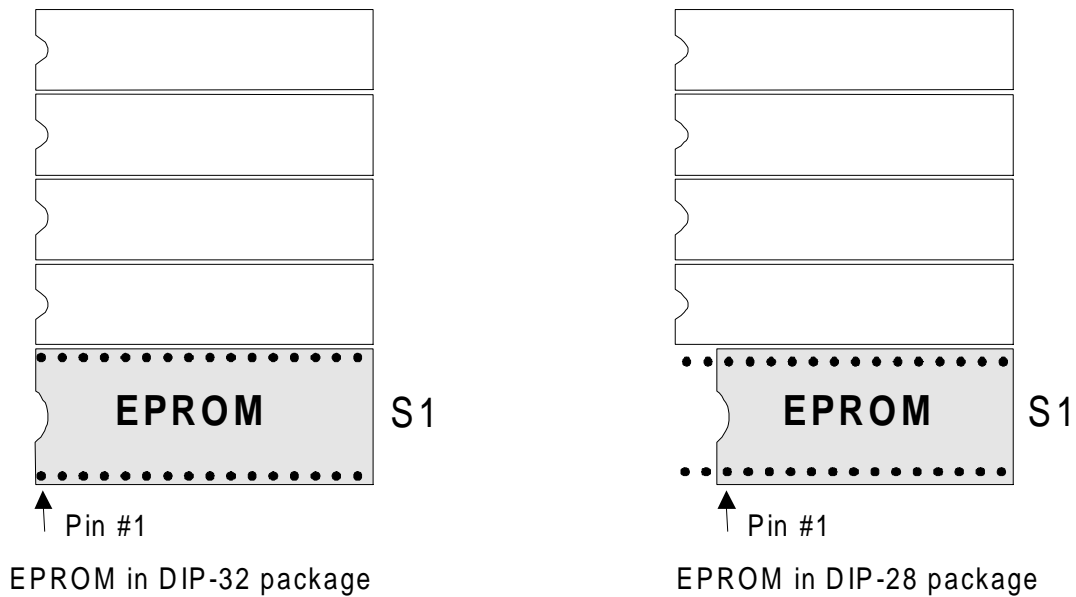
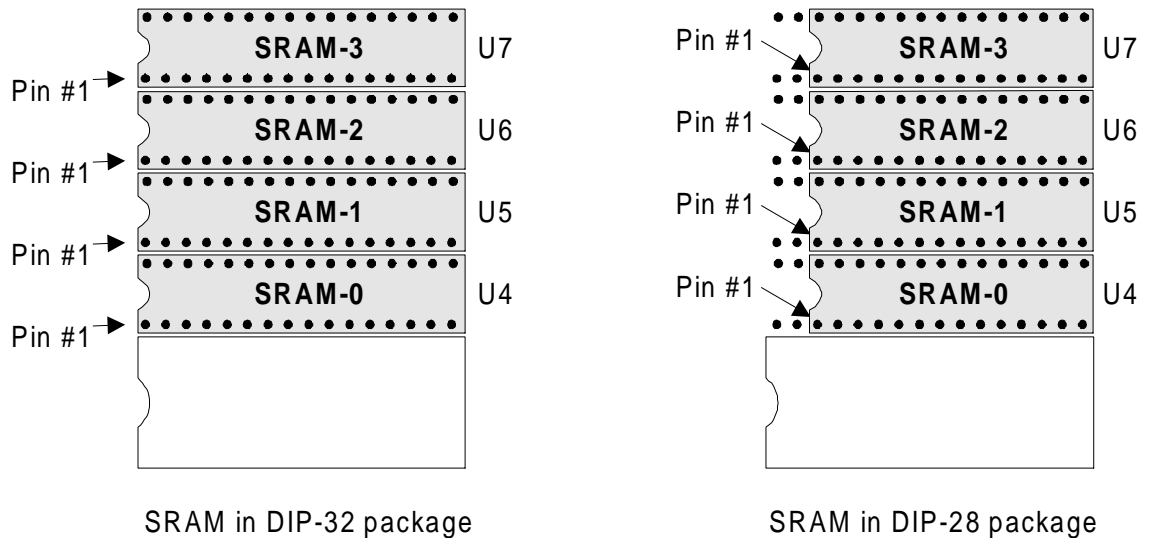
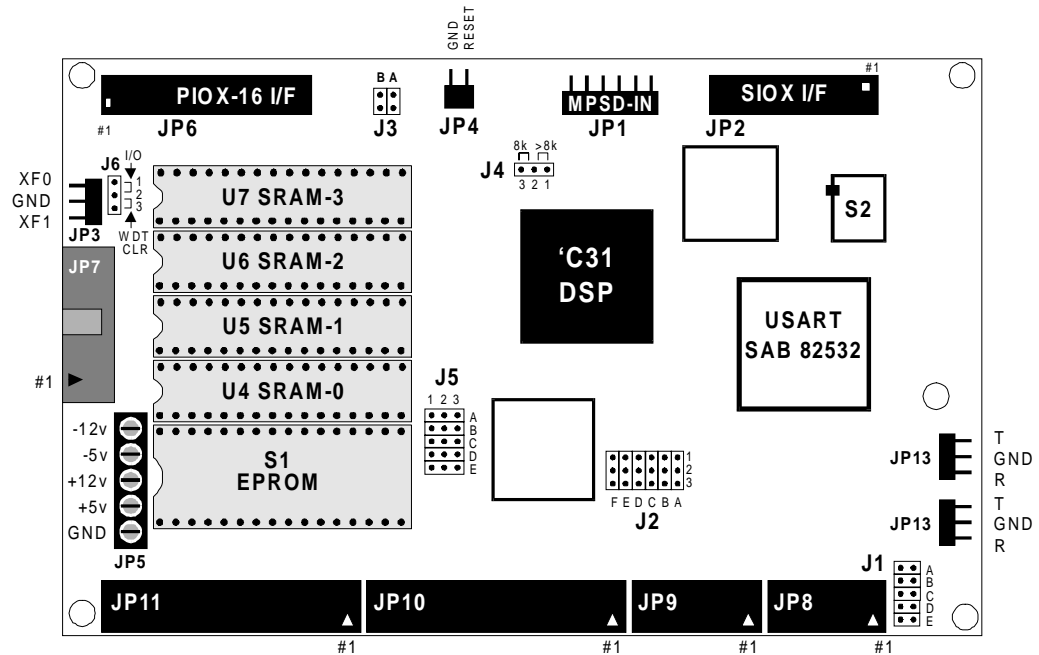

Fig.3-1. Installation of EPROM chip onto *TORNADO-E31* board.
Fig.3-2. Installation of SRAM chips onto *TORNADO-E31* board.
Fig.A-1. On-board layout for *TORNADO-E31*.
*TORNADO-E31* also provides 8-bit of general purpose parallel digital I/O signals (*DIO-0..7*), which are wired to the on-board JP7 connector (see fig.2-2 and fig.A-1) and 2-bit general purpose I/O (*XF0/XF1*), which are wired to the on-board JP3 connector.
The power to *TORNADO-E31* controller should apply via on-board JP8 connector (see fig.A-1). For proper operation the board requires +5v power only, whereas optional -5v and  $\pm 12$ v power inputs are routed to the on-board SIOX and PIOX-16 daughter-card sites.
Installation of EPROM chip (refer to fig.2-2 and fig.A-1) into the S1 socket on *TORNADO-E31* board should be performed while the board power is off (fig.3-1).
In order to install EPROM chip into the dedicated socket on *TORNADO-E31* mainboard follow the recommendations below (see fig. 3-1):
Installation of SRAM chips (refer to fig.2-2 and fig.A-1) into the U4..U7 sockets of SRAM bank on *TORNADO-E31* board should be performed while the board power is off (fig.3-2).
In order to install SRAM chips into the dedicated socket on *TORNADO-E31* mainboard follow the recommendations below (see fig. 3-2) :
Generally, the following first-time configuration efforts should be done prior usage and applying power to *TORNADO-E31* DSP controller (refer to fig.A-1 for on-board jumpers and connectors list):
Board layout for *TORNADO-E31* configuration jumpers and connectors is presented at fig.A-1.